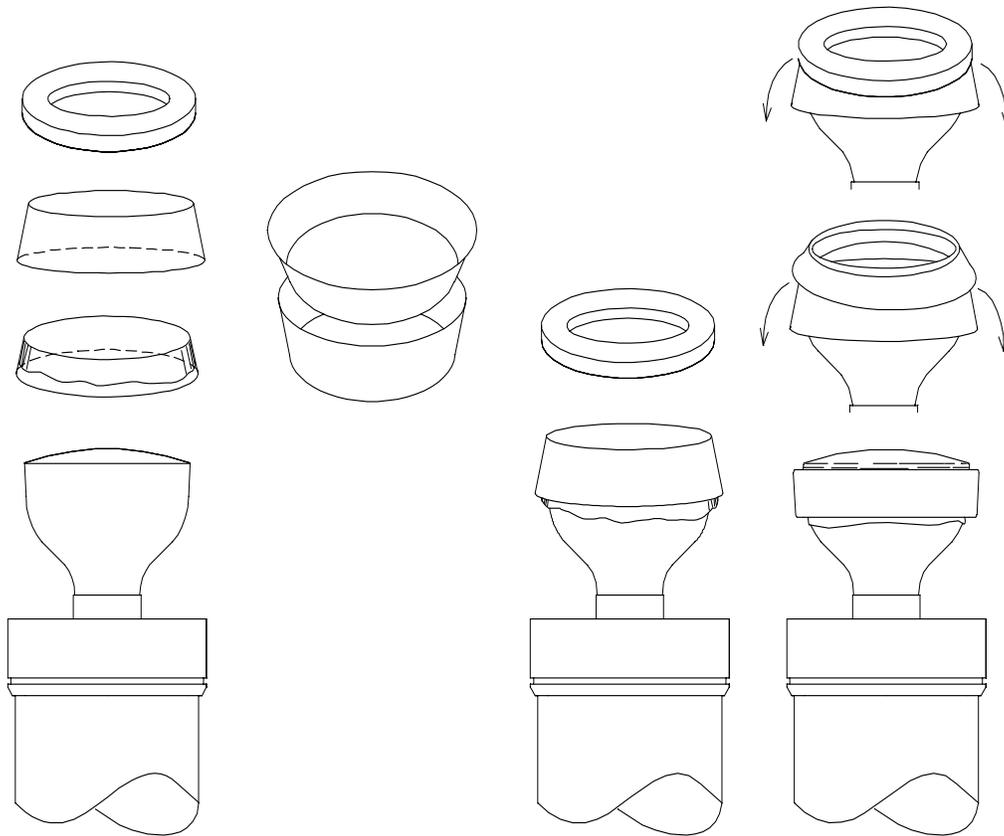

Figure 8: Assembling the Top Cup
- Step 3** Make sure the canvas cover is contoured to fit the ceramic cup. (See Figure 8: Assembling the Top Cup)